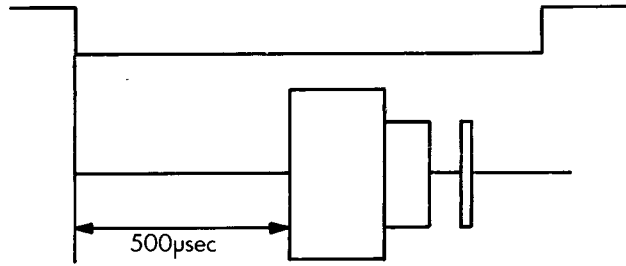

Fig. 5-1 Index burst waveform
When the timing is not within this range, proceed with the following adjustment. (Refer to Fig. 5-1).
- vi) Adjust VR201 so Index frequency is  $200 \pm 2$ ms (See Fig. 5-1).